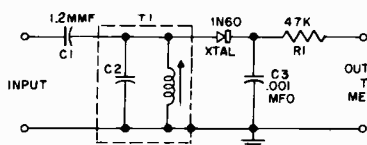

Fig. 1. 4.5 mc. Detector Tube
- Connect 4.5 MC detector (see circuit figure 1) to L13L (pin 2 of CRT).